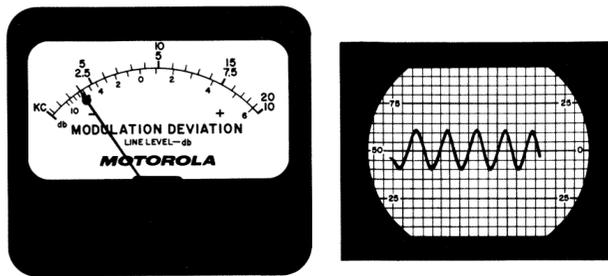

Figure 1.
d. Adjust the vertical gain of the oscilloscope so that the total recovered audio pattern occupies some convenient height, e.g., four small squares (12 squares in a wide-band system). The split-channel indication is shown in figure 1.